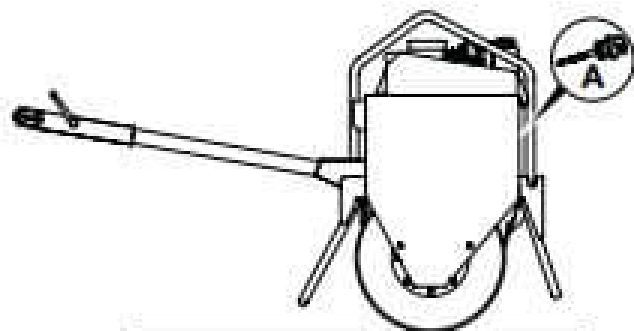

Fig 2.
- 2 Ensure that the machine is parked so that the engine is level ➔ Fig 2. \(D 12\).
➔ Fig 2. \(D 12\).